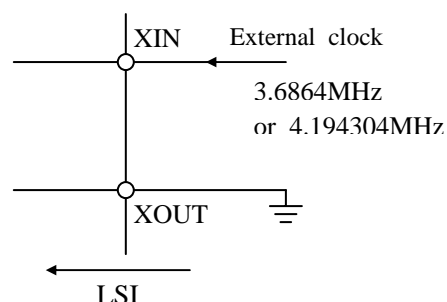

Fig.2
The first gate of XIN pin uses non-voltage-tracking type inverter. The threshold level is 0.8V. For external clock operation, if the high (H) level of the input clock signal amplitude equals to or is greater than 1.5V, and the low (L) level equals to or is smaller than 0.5V, then connection should be made as shown in Fig.2.